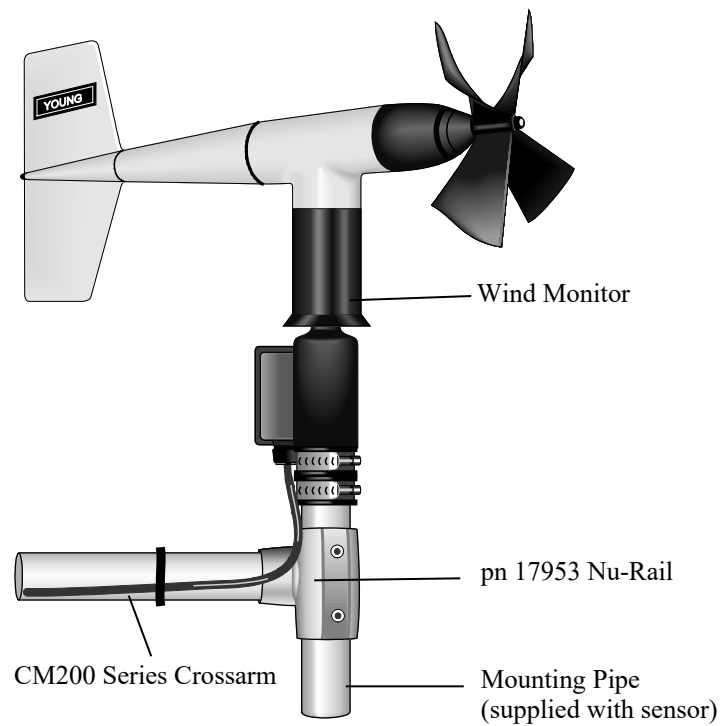

FIGURE 7-2. Wind monitor mounted to a crossarm with pn 17953 Nu-Rail
- 17953 1 x 1 inch Nu-Rail Crossover Fitting (FIGURE 7-2)